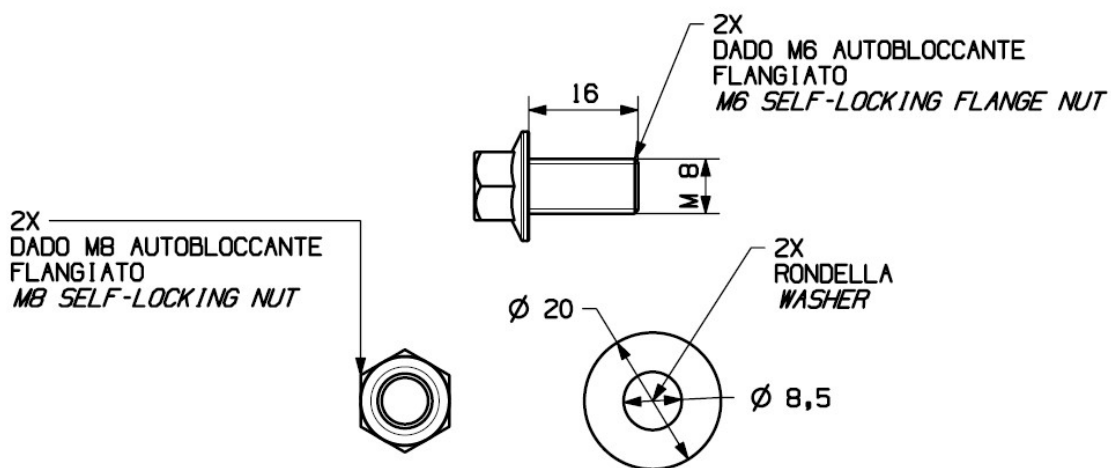

Fig. 6
Montare la staffa posteriore giunzione telaietti porta valigie e fissarla tramite n°2 viti M8x16, n°2 rondelle e n°2 dadi autobloccanti, come in fig.6.
*Mount the rear bracket joining between the right and left bracket assy and fix it with 2 M8x16 screws, 2 washers and 2 self-locking nuts, as in fig. 6.